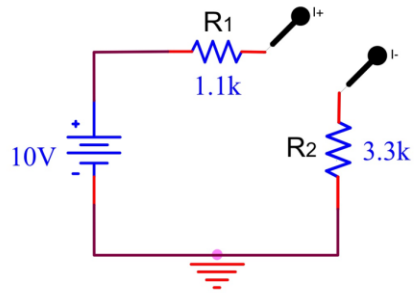

Figure 1.14
8. Turn off the power supply and break the connection between R_1 and R_2 to measure current (Figure 1.14). The positive lead of your DMM will be connected to R_1 and the negative lead will be connected to R_2 . Once the probe placement is correct turn on the power supply and record the measurement.